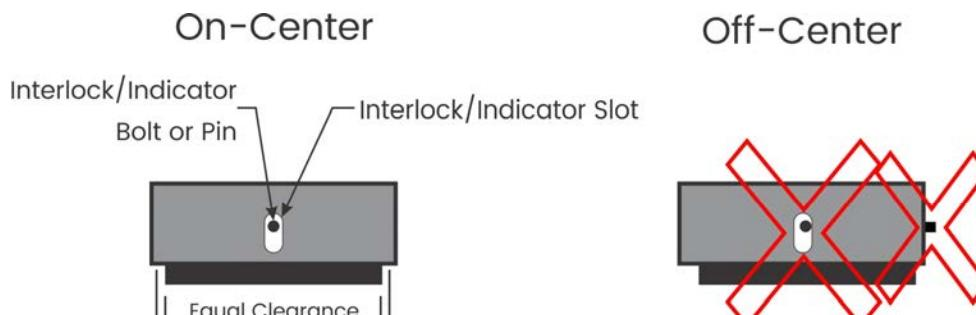

Figure 9
23. For proper isolator performance, there should be clearance between the isolator's elastomer and the inside surface of the isolator's support housing. The isolators are equipped with four Interlock/Indicator bolts or pins. These can serve as a quick check for centering the resilient cushion. The Interlock/Indicators should be centered side-to-side in the interlock slots as shown in Figure 9. If there is not clearance, lift the machine at that location and center the elastomer in the isolator housing.
34. Inspect the support isolators to make sure the elastomers are still centered as per Figure 9. Incorrect adjustment of buttress isolators can push the press over to one side potentially causing a twist.
39. Inspect the support isolators to make sure the elastomers are still centered as per Figure 9. Incorrect adjustment of buttress isolators can push the press over to one side potentially causing a twist.